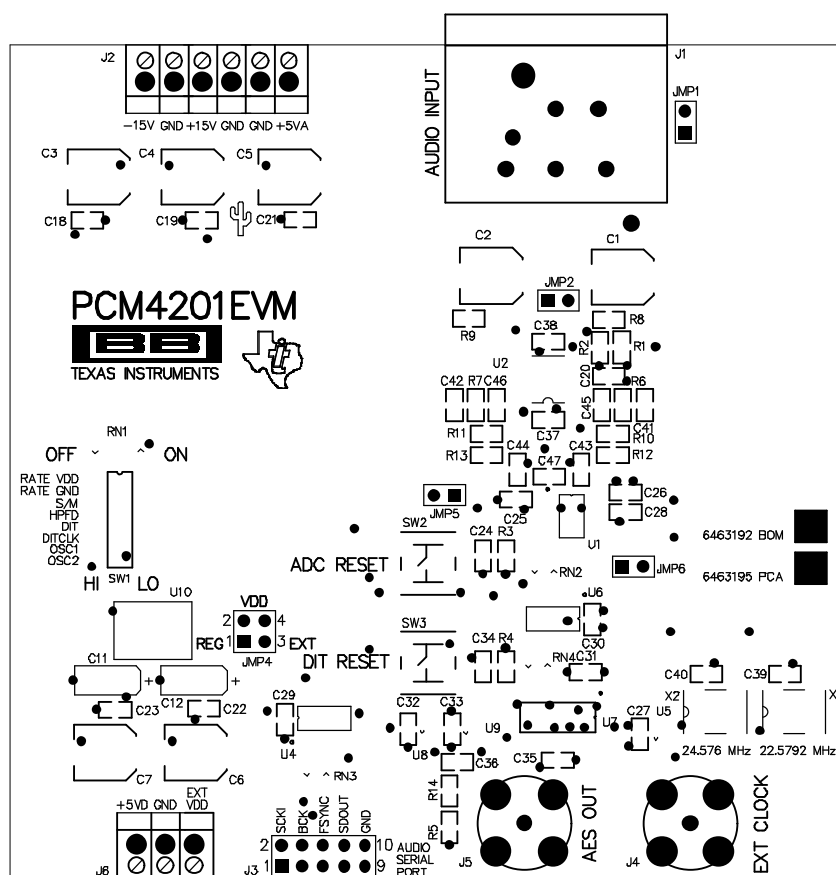
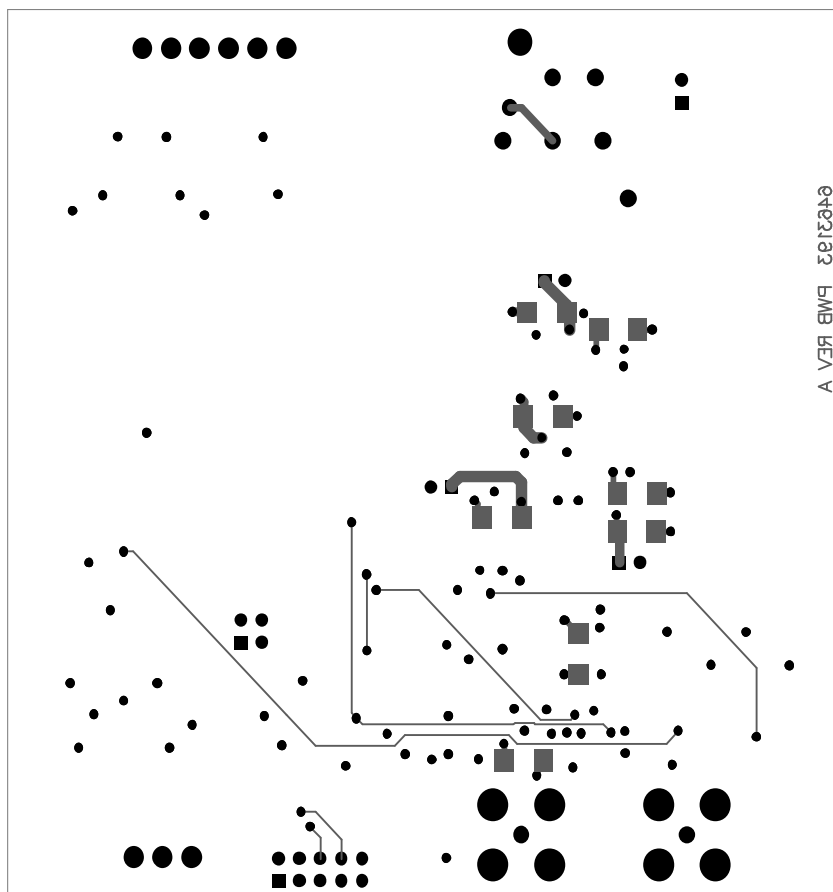

Figure 5. Top Side Silkscreen
Figure 10. Bottom Layer (Solder Side)
- Figure 5 through Figure 10 show the top and bottom side silkscreen images, along with top, ground plane, power, and bottom layers of the PCB.